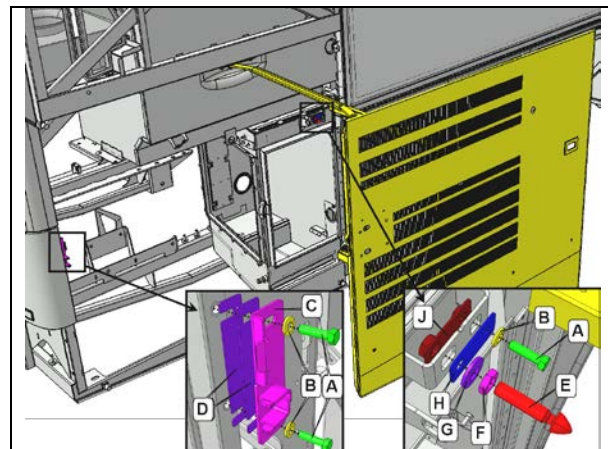

FIGURE 109: DOOR INSTALLATION – LATCH SYSTEM
1. To adjust the position, the door must be free to move without any restriction. For this reason, remove pin E and stripe plate C (FIGURE 109).